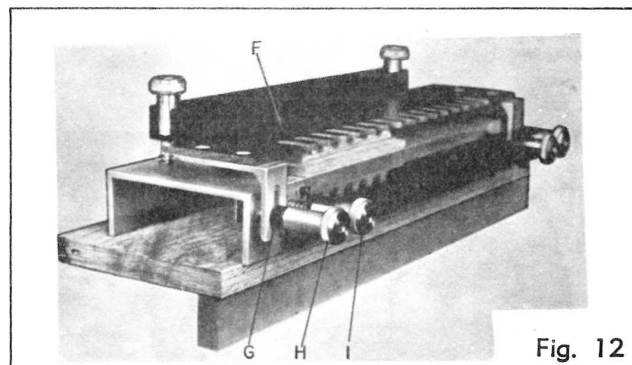

Fig. 12
Tighten top clamp knobs (E) firmly. After board (B) is properly positioned, loosen front clamp knobs (I) and remove board (A). Attach dovetail template (F) to the dovetail base with spacers (G) located outside brackets (See Fig. 12). Holding template flat on boards with one hand, tighten template knobs (H) securely. Cut dovetail joint in board (B) as a single piece. Loosen all clamp screws and remove routed sections.